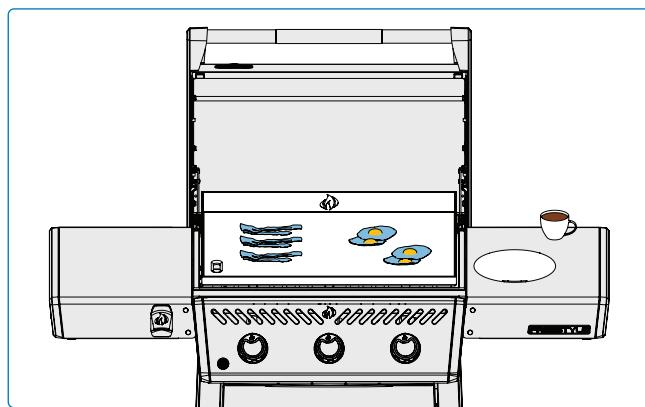

Fig. 8
- Set different burners to different heat levels to create specific temperature zones. Monitor the griddle surface temperature with an infrared thermometer to ensure each zone is at the desired heat level. Use direct heat (placed directly over lit burners) for foods that benefit from quick cooking, while indirect heat (placed off to the side) can be used for slower cooking or to keep food warm. (Fig. 8)